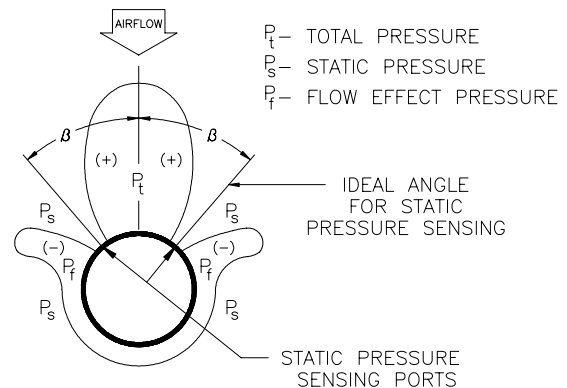

Figure 2
**Fechheimer Static Pressure Measurement.** Even small amounts of flow angularity can contribute to measurement error. The ACCU-flo/NP utilizes paired Fechheimer static pressure ports positioned at designated angles offset from the flow normal vector. As flow angularity veers from normal, one port is exposed to a higher pressure ( $P_s + \text{part of } P_t$ ), whereas the other port experiences a lower pressure ( $P_s - \text{part of } P_t$ ) of the same magnitude, thereby canceling out the undesired effect of the partial total pressure ( $P_t$ ). See Figure 2.